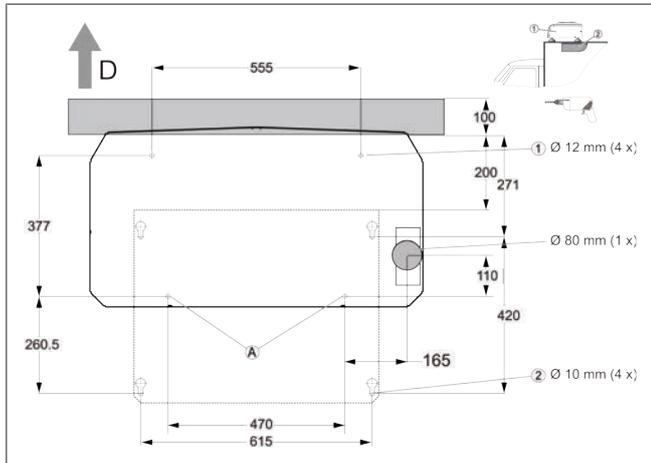

Fig. 6
2. Drill holes according to Fig. 6.